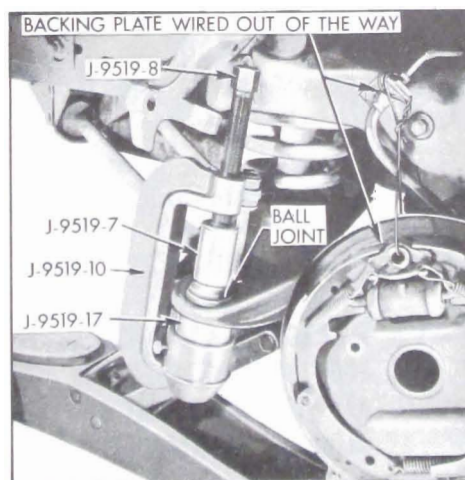

Figure 7-17—Lower Ball Joint Remover Tool in Place - 45, 46, 48000
7. On 45, 46, 48000, install lower ball joint remover and installer as shown in Figure 7-17.